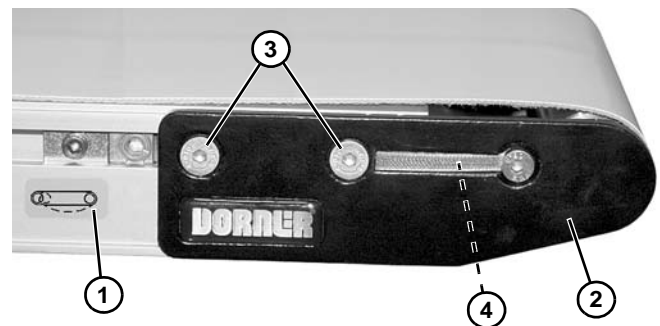

Figure 54
1. On tension end of the conveyor, identified with a label (Figure 54, item 1), adjust head plate assembly (Figure 54, item 2): On both sides of conveyor, loosen fastening screws (Figure 54, item 3) and rotate pinion gear (Figure 54, item 4) to adjust head plate assembly.
- After adjusting proper tensioning, tighten fastening screws (**Figure 54, item 3**) on both sides of conveyor to 60 in-lb (7 Nm).